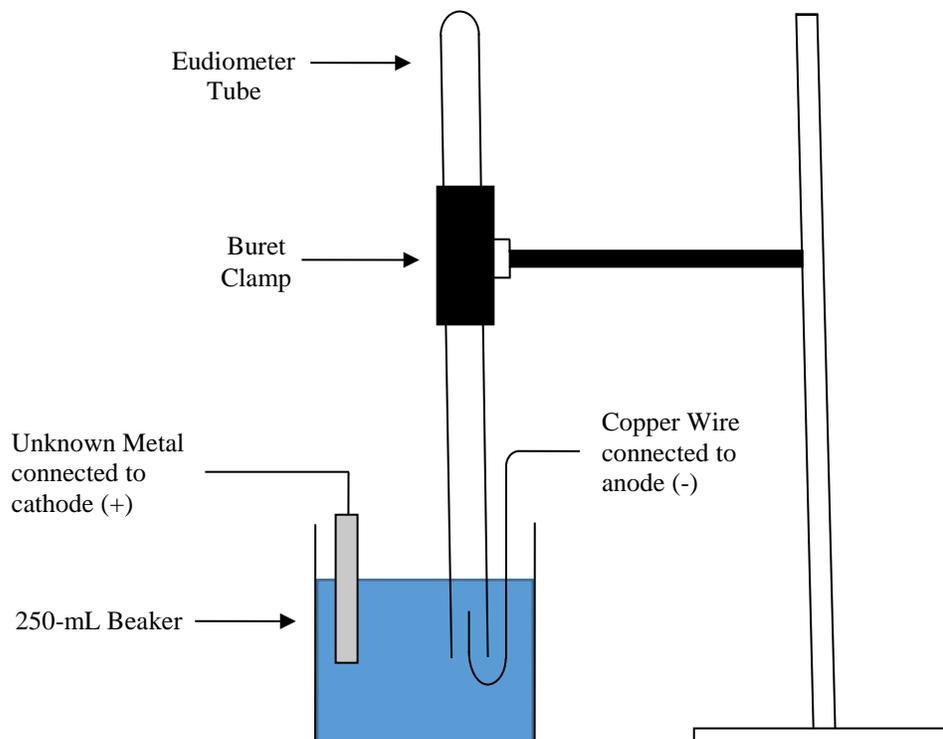

Figure 2
2. Figure 2 below illustrates the overall set-up of equipment for this experiment. Please refer to this figure while assembling your own equipment in the next steps.